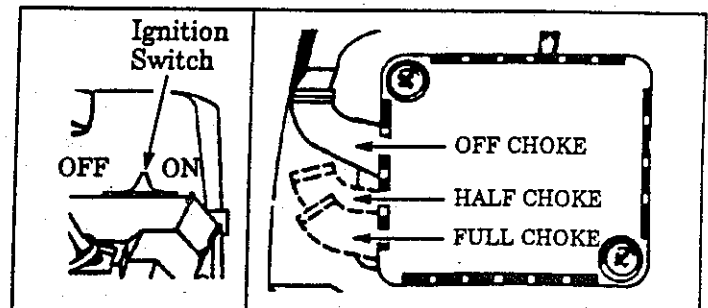

Figure 8
- Move ignition switch to "On." Figure 8.
- Move ignition switch to "On" position. Figure 8.